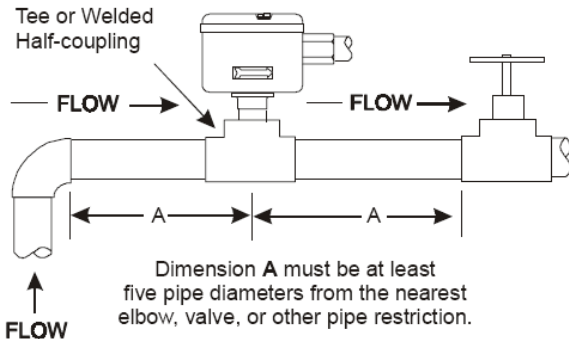

Figure 6 Typical Installation
- Mount the FS80-C in a section of pipe where there is a straight run of at least five pipe diameters on each side of the Flow Switch. See Figure 6